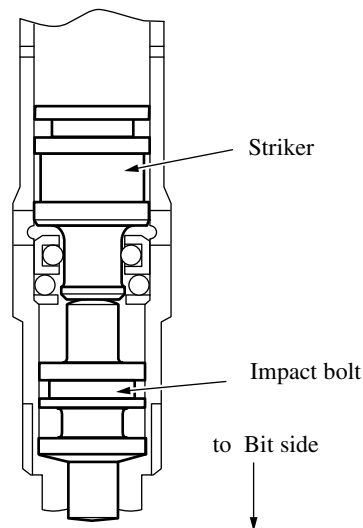

Fig. 19
5) Being careful of the attaching direction of Striker, press it into Tool holder. ( See fig.19)